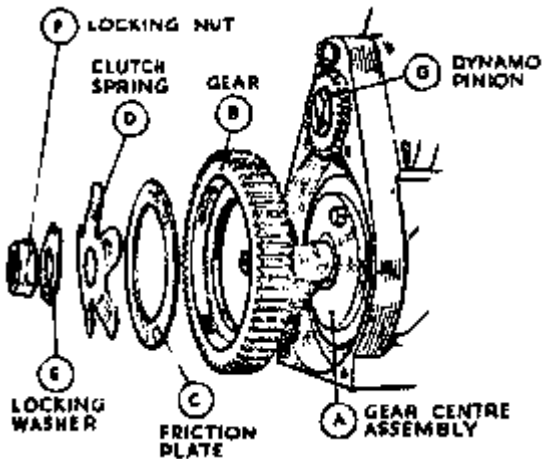
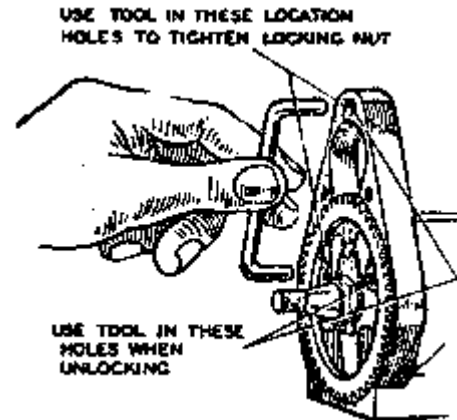
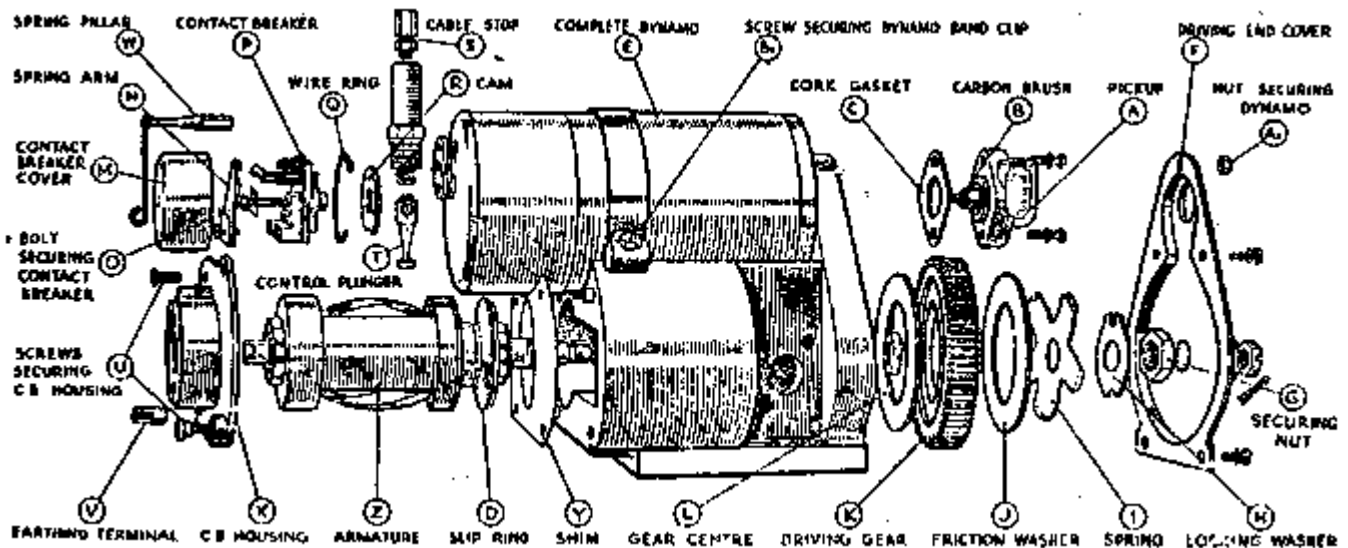

Fig. 49. Exploded view of components of the Slipping clutch.
Fig. 50. Slipping clutch showing the jig to lock the large gear.
Fig. 51. Exploded view of magneto portion of dynamo.
Examine the pick-up or high tension terminal (A, Fig. 51). See that the carbon brush (B) moves freely in its holder, being careful not to stretch the brush spring unduly. While the pick-up is removed, clean the slip ring track and flanges (D) by holding a soft cloth on the ring while the engine is slowly turned by means of the kickstart. When replacing the pick-up, do not forget to fit the cork gasket (C).
A (9) Magneto Slipping Clutch (see Fig. 49).
Remove the dynamo (E, Fig. 51) and take off the driving end cover (F) by unscrewing the four countersunk head screws. To dismantle the slipping clutch it will be necessary to use a jig (Fig. 50) to hold the larger gear whilst the securing nut is being undone. This consists simply of a length of $\frac{1}{4}$ " diameter mild steel rod bent to a flat U, the ends being cut short with their centres $3\frac{3}{16}$ " apart, so that one can be slipped in the hole in the wheel while the other is engaged with the hole in the top of the casting through which the dynamo securing stud usually goes. The $\frac{7}{16}$ " box spanner can then be used on the securing nut (G, Fig. 51) which unscrews in the normal left-hand direction. Note that the tab of the locking washer (H) must be bent back first. Remove the locking washer (H), clutch spring (I), friction washer (J), driving gear (K) and gear centre (L).
will be found on the side of the magdyno. Unscrew the screws (U, Fig. 51), earthing terminal (V), and pillar (W) from the contact breaker end plate (X) and remove the plate from the magdyno, together with shims (Y). The armature (Z) can then be drawn out of the machine. There is no need to put a keeper
If test apparatus is not available, a rough check of the armature windings can be made by means of a two volt battery (a tapping across one cell of the motor cycle battery), and an ammeter. Screw the contact breaker retaining screw (O, Fig. 51) into the end of the armature shaft. Connect one terminal of the battery, with the ammeter in series, to the screw. Connect the other battery terminal to the metal body of the armature. The ammeter will then record the current taken by the primary winding – this should be approximately four amperes. To check the secondary winding of the armature, wrap the bared end of a length of H.T. cable round the brass insert of the slip ring and hold the other about one-eighth from the armature core. If the lead from the battery which was connected to the core is then flashed quickly on and off the core, a spark should occur between the H.T. cable and the core.
Key the gear centre (A, Fig. 49) on to the spindle, replace the driving gear (B), friction washer (C), clutch spring (D), locking washer (E) and secure by tightening the fixing nut (F). The U shaped jig (Fig. 50) must be used to prevent rotation of the shaft while tightening the nut. After assembling, the setting of the clutch must be checked. This can easily be done by locking the driving gear and applying a
After setting, by slackening or tightening the securing nut (F, Fig 49) prevent further movement by bending up the tab of the lock washer (E). Refit the dynamo and pack the gears with high melting point grease. Secure the drive end cover in position with the gasket
Take off the connections from the dynamo terminals, unscrew the hexagon headed nut (A1, Fig 51) from the driving end cover of the magdyno, slacken the two screws (B1, Fig 51) securing the band clip and draw the dynamo out of its mounting.